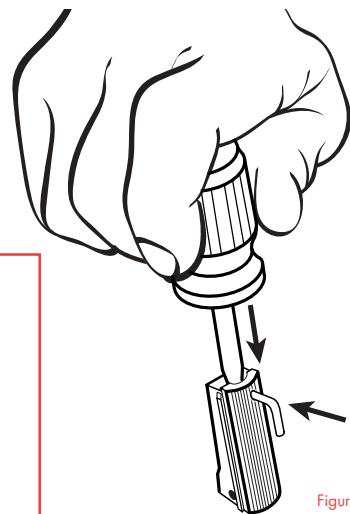

Figure 16-1
2. Carefully depress the cap far enough to allow you to reinstall the takedown pin. (See Fig. 16-1).